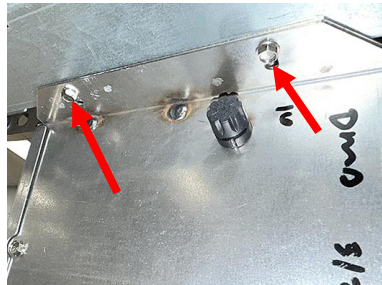

Figure 12
15. **REMOVE**, the two screws, on the **RIGHT SIDE** of the SCB box, as viewed from the front of the fryer, attaching the SCB box to the frame (see Figure 12).